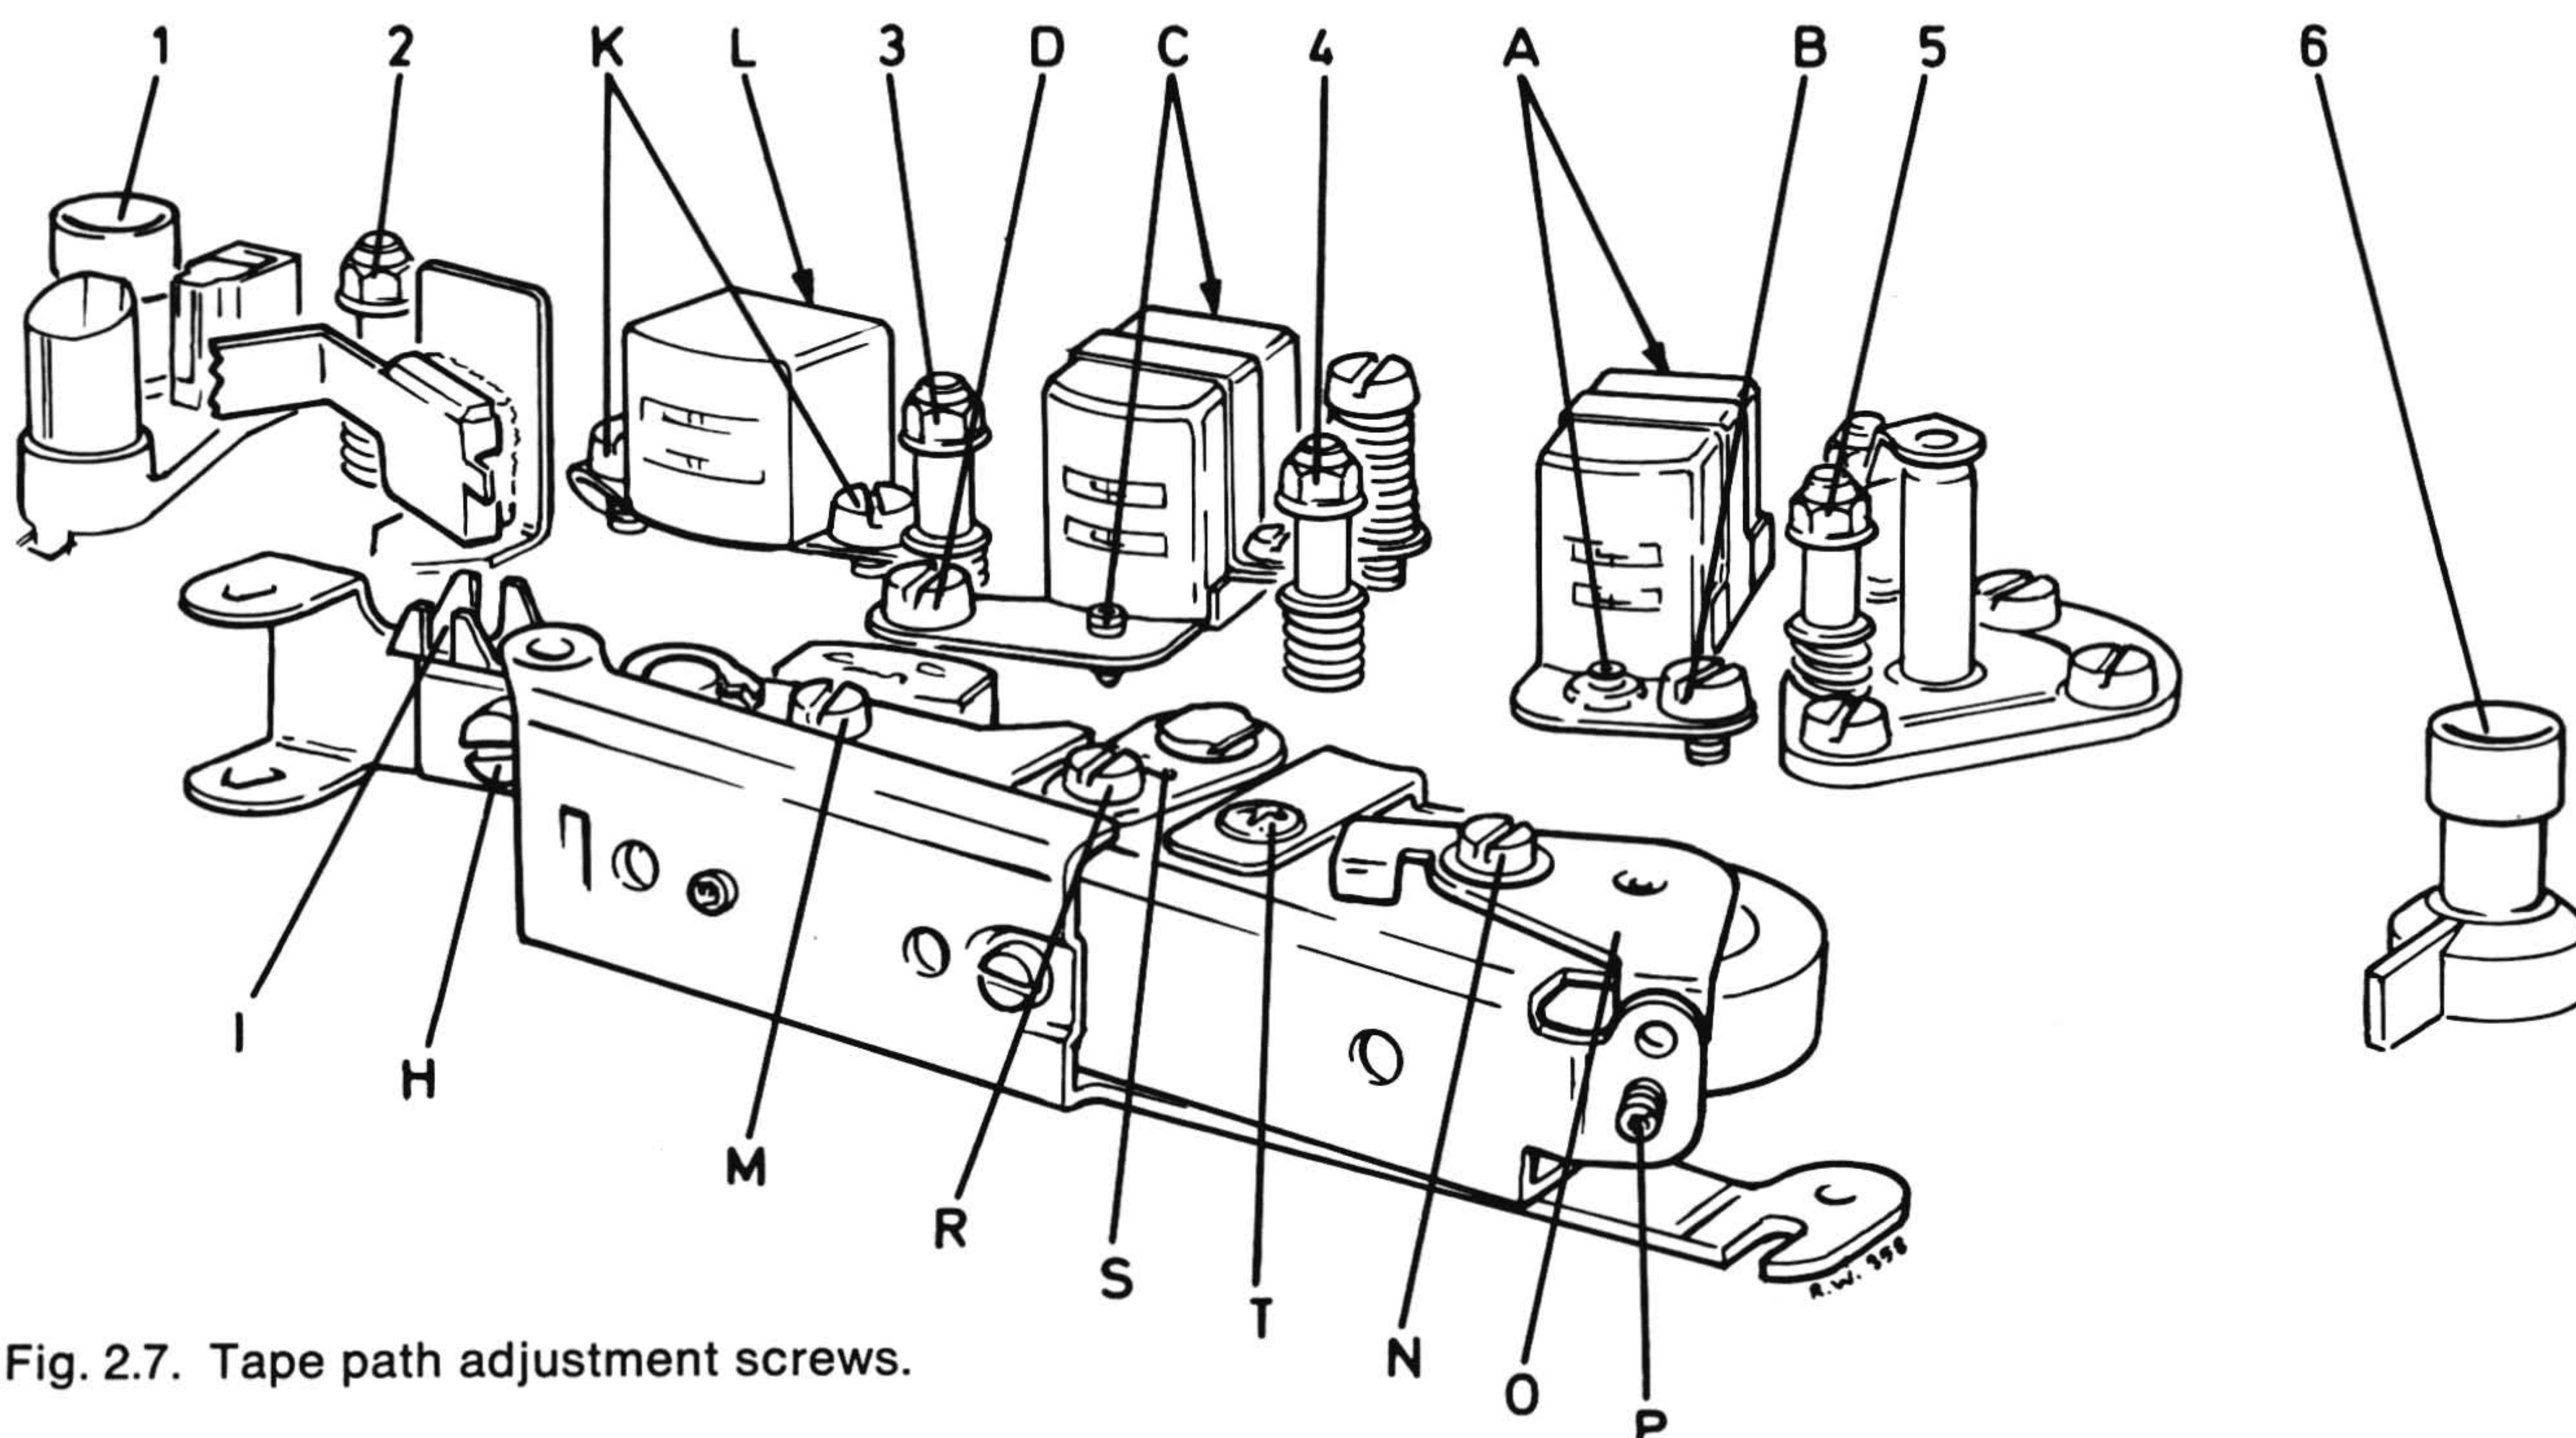

Fig. 2.7. Tape path adjustment screws.
Load the recorder with a tape, and move the operating lever slowly to the normal forward drive position. Check that the bias head neither touches the height adjustment screws C, see fig. 2.7, on the record head mounting plate, nor presses the tape against the record head. Also check that the bias head is parallel to the record head.
Insert a tape and set operating lever to normal forward drive. Check by visual inspection that the capstan and the pinch roller wheel are parallel. If not, adjust by first loosening screw (N), see fig. 2.7, and then adjust with set screw (P) until the wheel and capstan are parallel. Tighten screw (N).
Set the operating lever to normal forward drive with tape on the recorder. Loosen screw R, see fig. 2.7, on the inertia idling roller adjustment plate 291180. Insert a screwdriver in slots of the plate and press forwards or backwards until the idling roller is parallel with the heads. Note that the tape does not bulge on any side of the roller. Then tighten the screw.
By giving the inertia idling roller a light inclination (see paragraph 2.3.6), the roller will give the tape a light upward lift causing the tape to touch the upper flange on the tape guide posts 2, 3 and 4, see fig. 2.7. The result is a precise guidance of the tape past the heads. For a best possible result, readjust the tape guide posts 2, 3 and 4 so that each one slightly touches the tape with the upper flange, taking care to avoid that the tape bulges at any of the guide posts. The guide posts are adjusted in the sequence 4, 3, 2, see fig. 2.7, while the tape is moving at  $7\frac{1}{2}$  ips. Repeat the adjustment until the tape guidance is as smooth as possible.
Play back Tandberg test tape No. 1. This is a full track prerecorded tape with 1000 Hz recorded at  $7\frac{1}{2}$  ips and with area corresponding to track 3 reduced by approx. 30 dB. Adjust the height of the playback head by means of the screws (A), see fig. 2.7, until minimum output is obtained from track 3 (channel R), while endeavouring to maintain the headfront parallel to the tape.
Play back Tandberg test tape No. 2. This is a full track prerecorded tape with 10,000 or 15,000 Hz recorded at  $7\frac{1}{2}$  ips. Adjust the azimuth position of the playback head by means of screw (B), see fig. 2.7, until maximum indication on the voltmeter is obtained on both channels, or best compromise.
Insert a new tape, and start the recorder in normal forward drive. Check visually that the tape appears to run parallel with the upper track of the record head, with a play of approx. 0.1 mm (0.004"), see fig. 3.2. If necessary adjust the height with screws (C), see fig. 2.7, while endeavouring to maintain the headfront parallel to the tape.